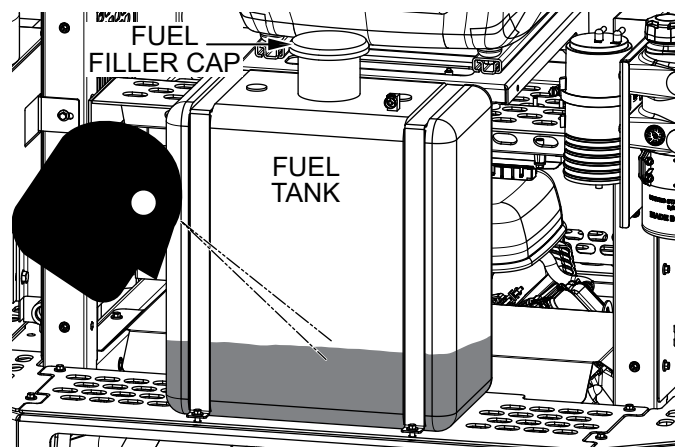

Figure 16. Fuel Level Inspection
- Visually inspect the fuel level in the **fuel tank** (Figure 16).
- If fuel is low, remove the **fuel filler cap** (Figure 16) and fill the tank with clean, fresh, 87 octane or higher unleaded gasoline. **DO NOT** overfill. The fuel tank holds 8 gallons (75.7 liters) of gasoline.